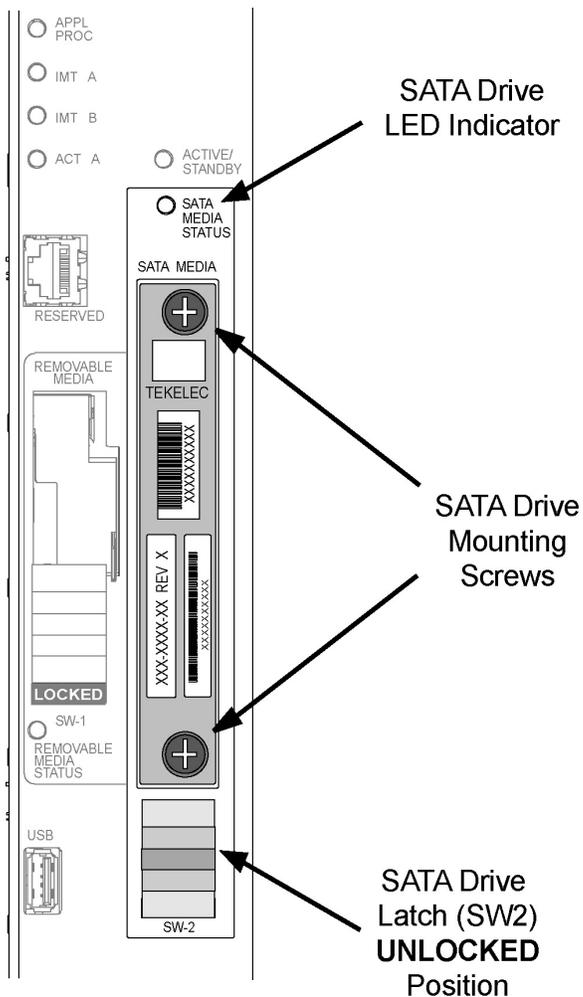

Figure 13: SATA Drive UNLOCKED
12. Move SW2 from the LOCKED to the unlocked position and wait for the LED to indicate a steady blue state. See Figure 13: SATA Drive UNLOCKED.